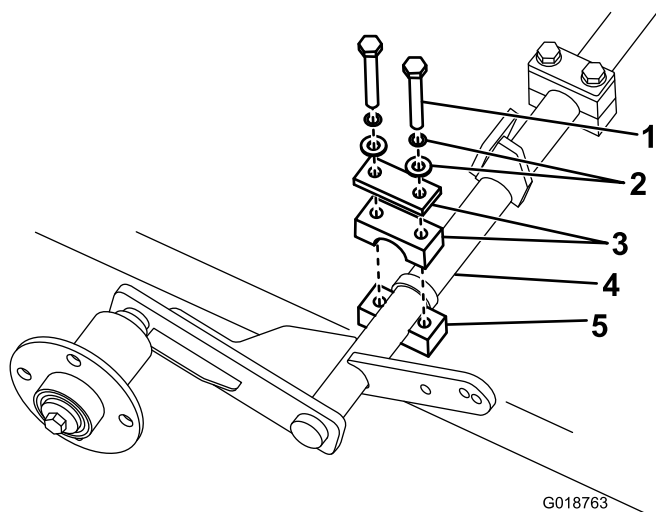

Figure 2
3. Install the top half of the clamps and secure them with the previously removed bolts. Do not tighten the bolts completely until the gas lift ram has been installed (Figure 2).